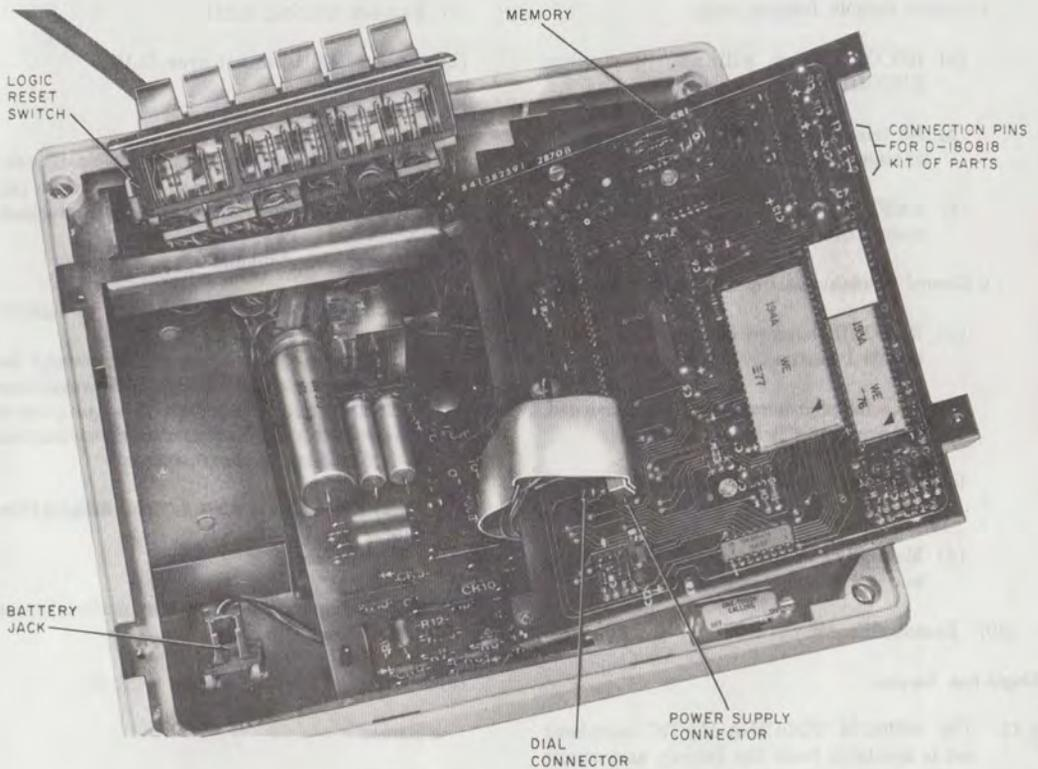

Fig. 5—2872A2M Telephone Set, Internal View, Overall
(4) Disengage the two captive dial mounting screws and move dial aside.
(5) Rotate left edge of the memory upward as shown by Fig. 5.
(6) Mount switch below dial using the two screws provided.
- Battery jack (Fig. 5)